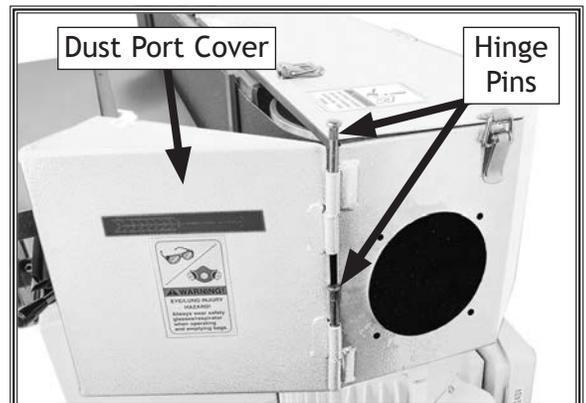

Figure 10. Dust port cover installed.
16. Insert hinge pins through aligned hinges, as shown in **Figure 10**, and tap with a hammer for full insertion.